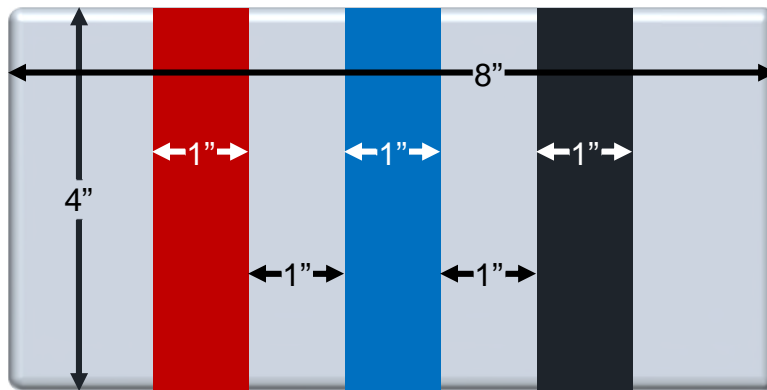

Figure 1: Layout of spray paint strips over the anti-graffiti test panel.
- 4.2. Spray paint three of the seven panels with three different types of paint as shown in **Figure 1**. Lines shall be approximately one inch wide and approximately one inch apart. Mark the back of the panels using indelible marker with all product identification information. Photograph all seven panels. Record the date of spray painting.